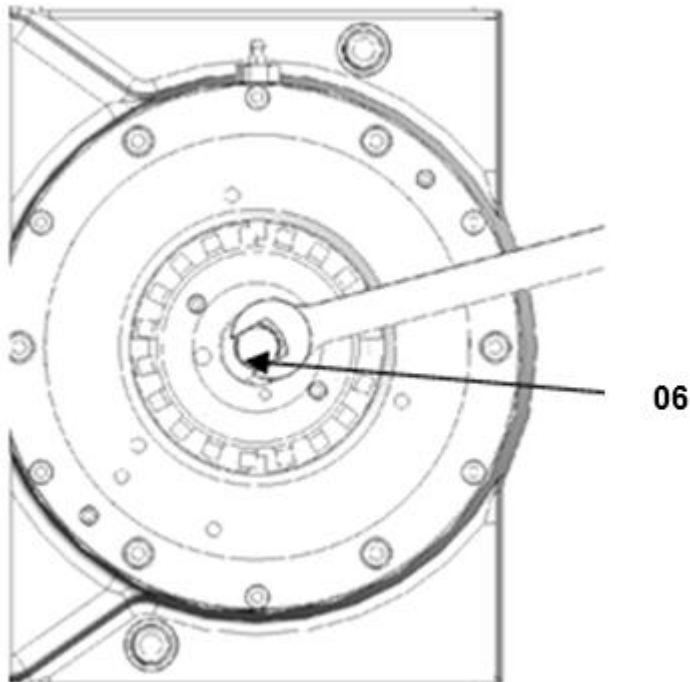

Fig. 5.5
6. Screw or unscrew using a flat spanner Fig.5.5 or socket, to adjust the screw **06** until the gap between the pad and the disc reaches the required value see type plate brake "PG" Pad Gap. The Pad Gap is to check on both side and if the version R-V additional readjust with the screw M16 readjust.
4. Screw or unscrew using a 19mm wrench or socket the wear take up screw **06** until the gap between the pad and the disc enables to put the new pad in position Fig.5.5 see chapter 5.3.